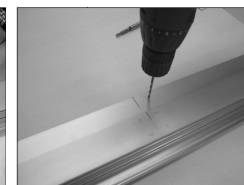

Fig. 5
Fig. 5 bis
- E. Drill the holes and screw in the front bracket, making sure that all screws are fitted tightly (Fig. 5 and Fig. 5bis).